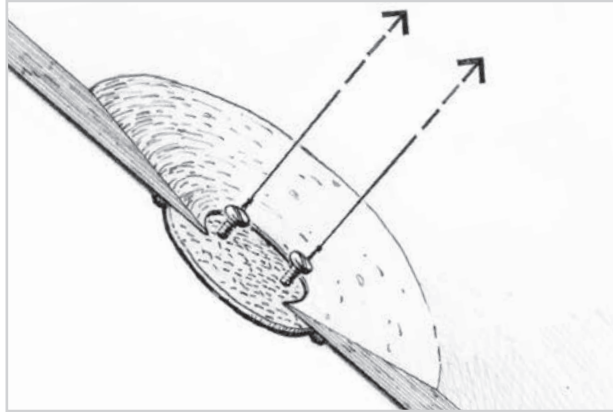

Figure 4-4 Pull the backer tight against the inside of the panel to permanently bond the backer in position.
4. Pull the backer into position on the inside of the panel and tie off the strings to a stationary object close to the hole or around a stick laid across the hole (Figure 4-4). Keep enough tension on the strings to hold the backer in position and bend the backer as necessary to match the contour of the panel. Some of the epoxy mixture should squeeze out of the joint. Scrape away the excess and smooth the joint before it begins to cure. Allow the epoxy to cure thoroughly before removing the screws.